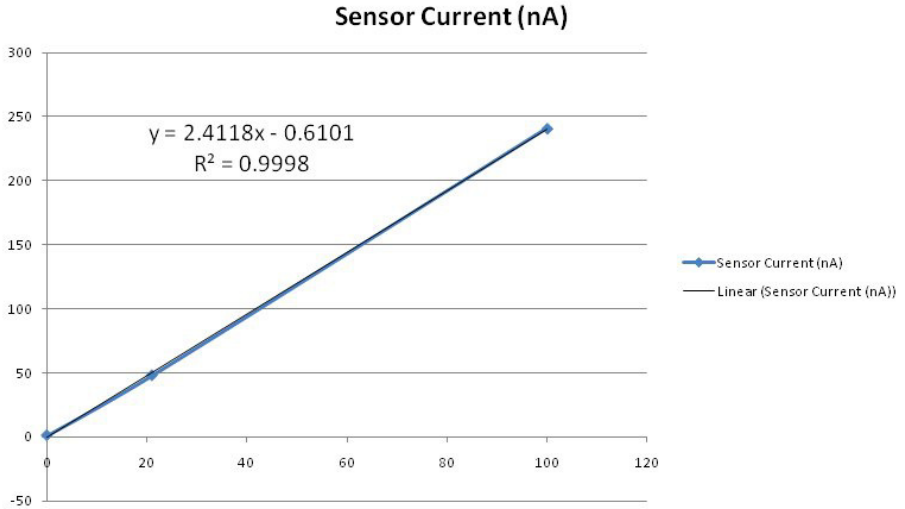

Fig. 5—Calibration output
9. Construct a standard calibration curve using the recorded data. Using a third party spreadsheet with graphing capability like Microsoft® Excel, it is possible to generate a linear regression analysis that will display the equation and the R² coefficient. To do this in Excel, enter the data and generate a “scatter plot” graph. Then, select the line and right click. Choose **Add Trendline**. The **Add Trendline** dialog box appears. Select the **Linear** radio button, the **Display equation on chart** checkbox and the **Display R-value on chart** checkbox. (Fig. 5)